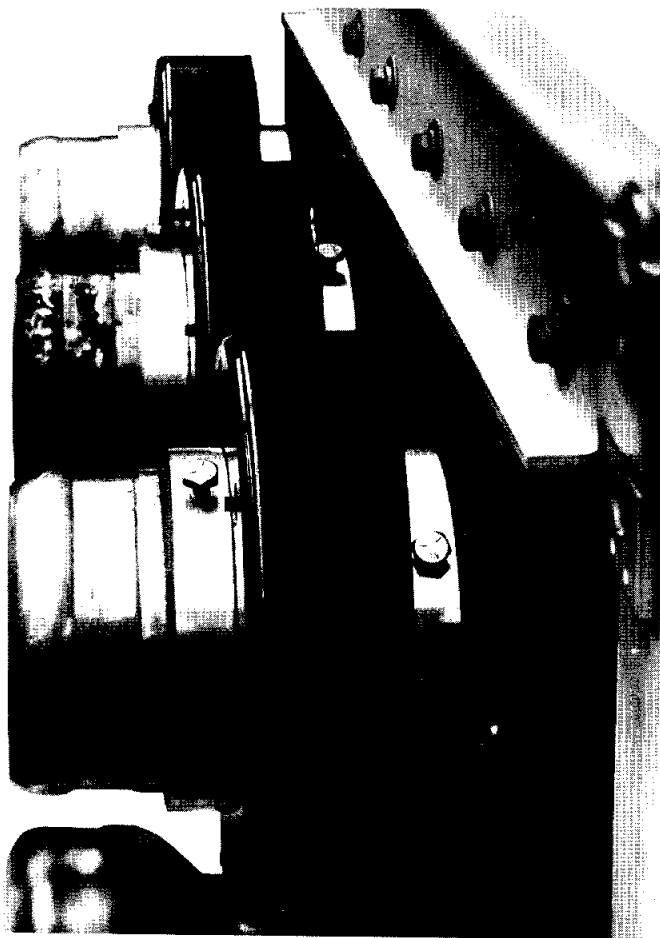
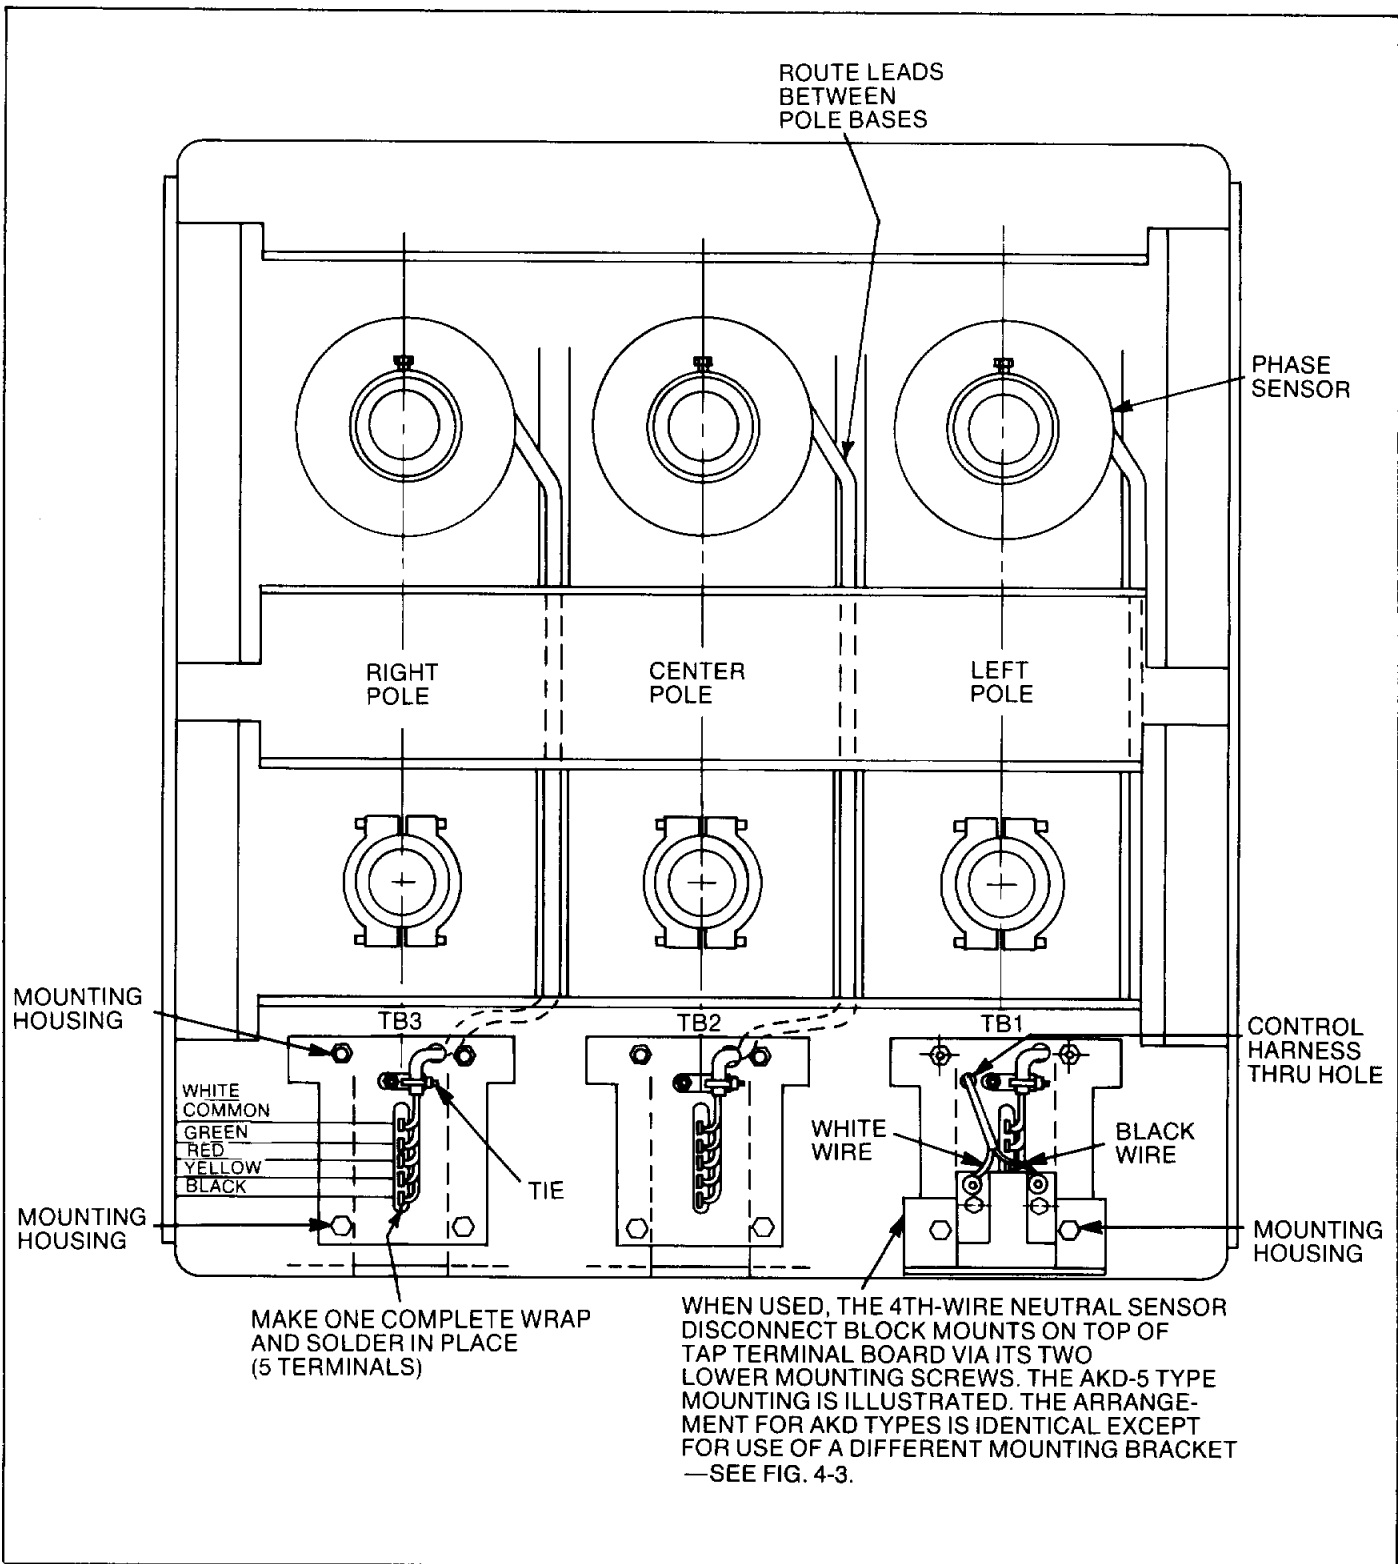

Fig. 3-6. Phase sensors installed — AK-75/100
Fig. 3-8. Typical AK-75/100 brackframe conversion — rear view
2. The MicroVersaTrip™ sensors mount on the upper-breaker studs. The sensors are held on the stud with the locking rings, as shown in Fig. 3-6. Leave enough of the stud exposed for the primary fingers to engage. Engage the sensor's anti-turn lugs with the notch in the locking ring. Before tightening the locking rings, position each sensor so that its leads will exist between the pole bases, as shown in Fig. 3-8.
3. Mount the three sensor terminal boards to the rear of the back frame as shown in Fig. 3-8 using the hardware provided.
4. Form each sensor's leads downward between the pole bases and thru the hole in its terminal board as shown in Fig. 3-8. Wire tie and solder to the terminals as indicated. Be sure to position wire colors as shown.
The 4th-wire disconnect for the AKR-AKR-75/100 Drawout breaker mounts to the lower-back frame as shown in Fig. 3-8.
2. If the disconnect is being added, mount the disconnect assembly as shown in Fig. 3-8.